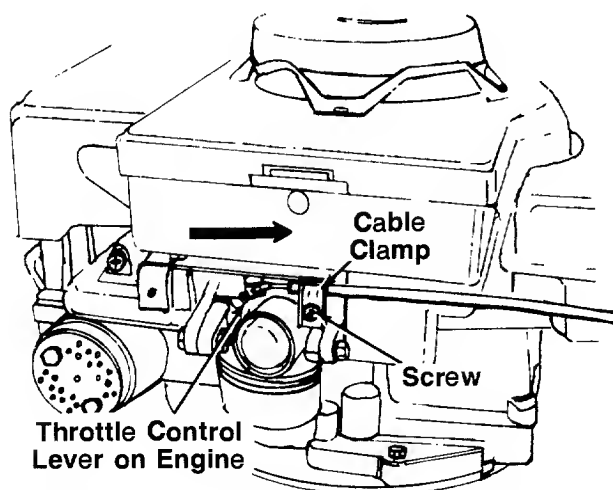

FIGURE 6A.
2. The throttle control cable is attached to the upper handle. Route the throttle control cable under the lower handle and inside the handle mounting bracket. Hook the "Z" end of the throttle control cable into the control lever on the engine as shown in figure 6A.
3. Loosen (do not remove) the screw on the cable clamp shown in figure 6A. Slip the control casing under the clamp (cable must move freely beneath the clamp).